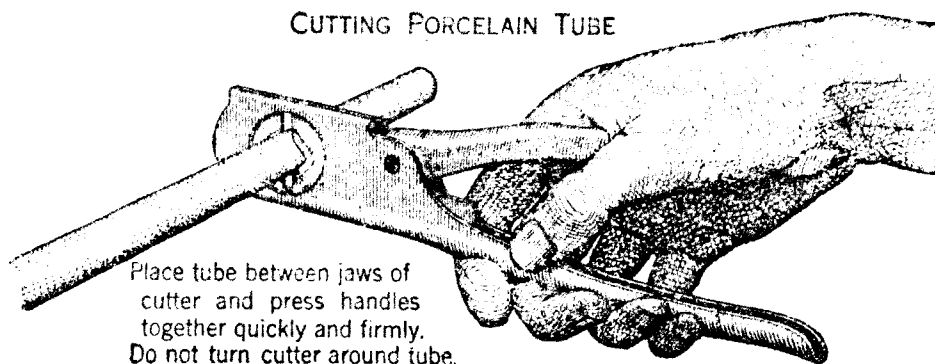

Fig. 10.
6.02 In locations where appearance is important, cut off any projection of $3/8$ inch tubes beyond one inch as shown in Fig. 10. In locations where appearance is not important, tube need not be cut unless exposed portion is subject to breakage. As it is impracticable to cut $3/4$ inch or 1 inch tubes, select length that will give least projection over $1/4$ inch.